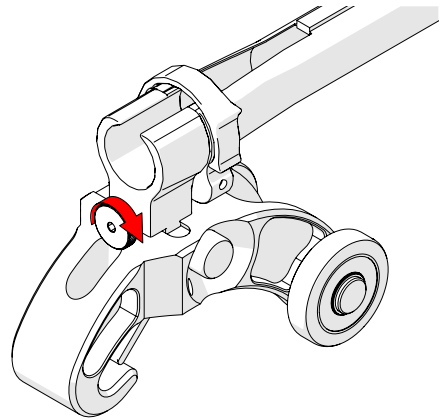

Fig. 76 - Tighten knob
2. Once centred on the Dovetail QuickLink, tighten the cable management's dovetail mount knob (Fig. 76).